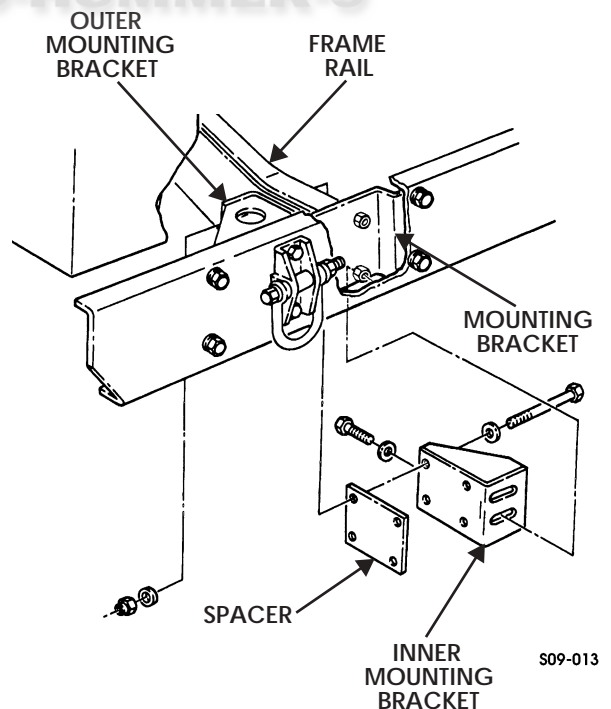

Figure 9-25: Rear Bumper Mounting Bracket
1. Remove two capscrews and washers securing inner mounting bracket to mounting bracket (Figure 9-25).
1. Install spacer and inner mounting bracket on frame rail and outer mounting bracket and secure with four washers, capscrews, washers, and locknuts. Tighten locknuts to 90 lb-ft (122 N•m) (Figure 9-25).